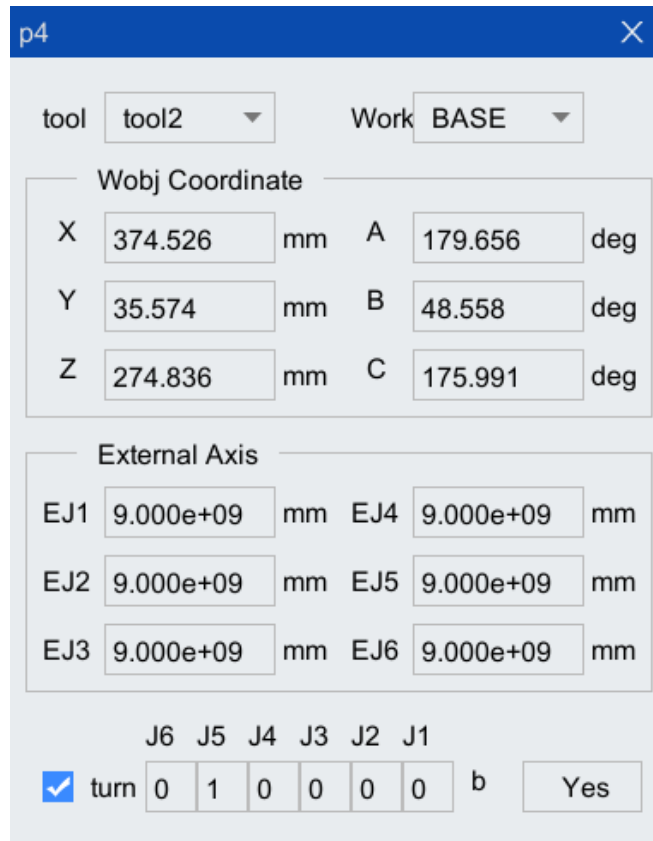
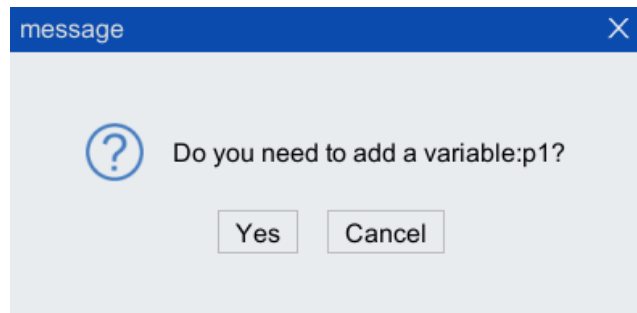

Figure 5-21 "p" variable display box
Figure 5-22 "Do you need to create the variable j1" dialog box
Step2. Click <...> button after the position variable p to pop up "p" variable display box in Figure 5-21, which displays the position information of the current TCP of the robot body relative to the workobject coordinate system and the current position information of the external axis. The position is displayed but cannot be modified. Click <Yes> button, and then the current position information can be obtained automatically after the instruction is inserted.
Step3.Click <Yes> button in Figure 5-21 to pop up "Do you sure to create the variable p1" dialog box, as shown in Figure 5-22. Click <Yes> button, variable creation completed.
Step4.Figure 5-21 As shown in, you can re-select the tool/workobject coordinate system, or select or cancel the turn value. After clicking <Yes> button, the parameters t and w in the PTP instruction box will display the currently selected tool or workobject coordinate system (see Figure 5-23); if you want to modify it, you must complete the modification through "Revise Cmd" or "Get pose" in the toolbar of the program editor.